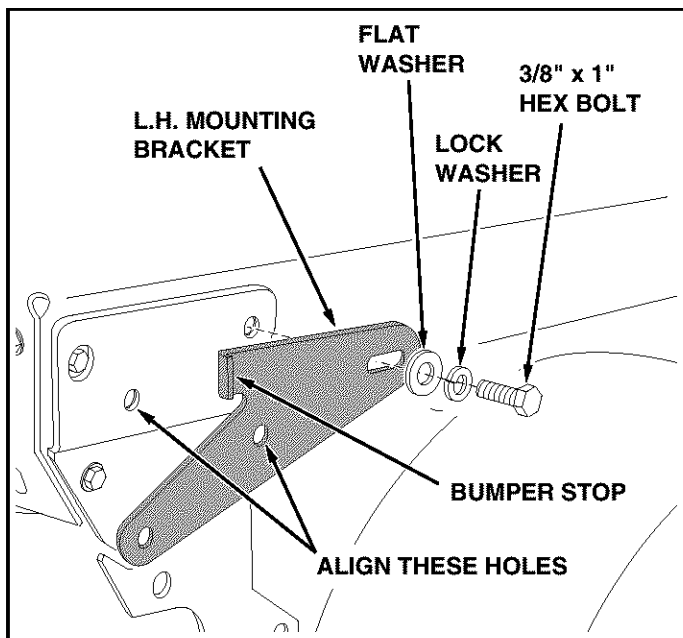

FIGURE 3
- Assemble the L.H. mounting bracket to the front left side of the tractor frame. Fasten to the rear hole using a 3/8" x 1" hex bolt, a 3/8" lock washer and a 3/8" flat washer. Align the middle hole in the mounting bracket with the hole in the tractor frame. Tighten the bolt enough to hold the bracket in place. Repeat for the R.H. mounting bracket. See figure 3.